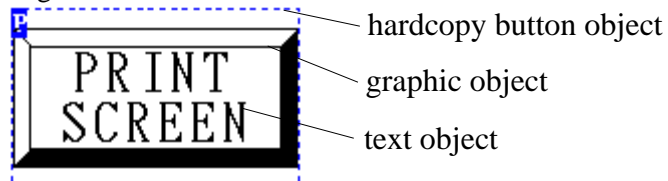

Fig. 3-21: Example of a Hardcopy Button
- 4) Release the mouse button. A hardcopy button object is created and displayed as shown in Fig. 3-21.